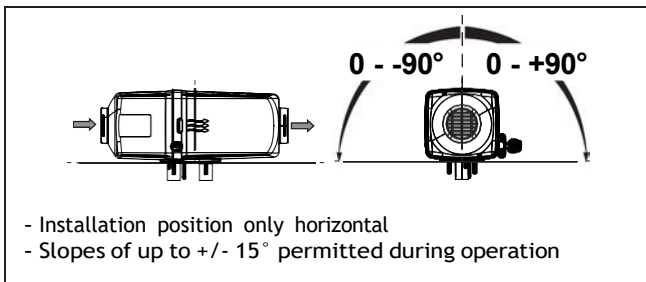

Fig. 4 Permissible installation position for petrol and diesel
- ✓ Ensure the correct installation position. See Fig. 4.